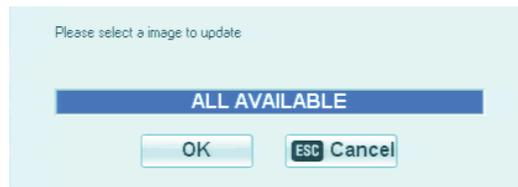

Figure 4. Update Dialog Box
- Click ALL AVAILABLE, and then click OK (refer to Figure 4). When the system locates the update file on the USB drive, the system updates the firmware, software, and kernel. After the update process is complete, you are prompted to restart the DX4500/DX4600.